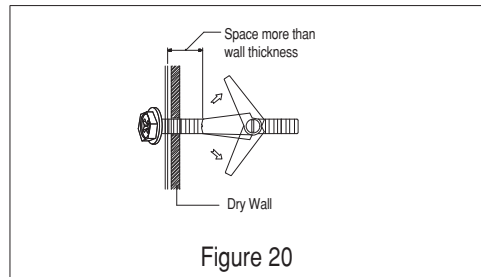

Figure 20
- Position mounting plate on wall and insert toggle bolt assemblies through the drywall holes or start the lag-screw(s) through the wall stud(s). See Figure 20.